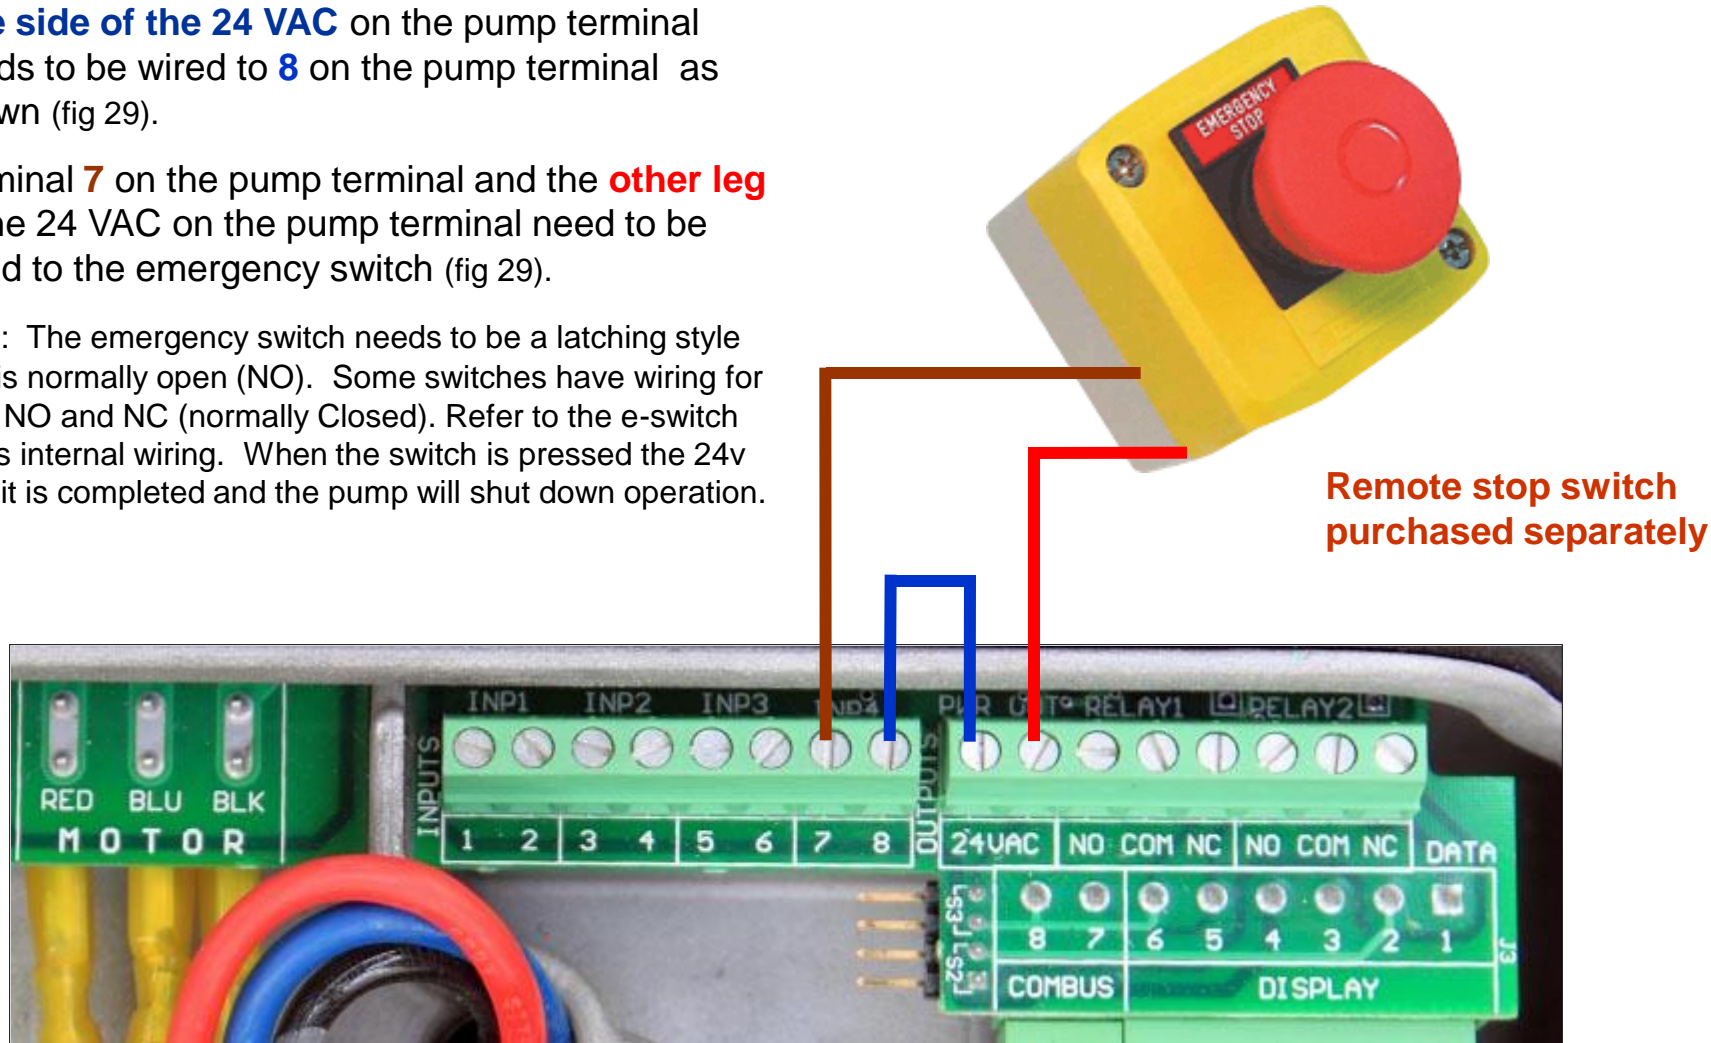

Fig 29
1. **One side of the 24 VAC** on the pump terminal needs to be wired to **8** on the pump terminal as shown (fig 29).
2. Terminal **7** on the pump terminal and the **other leg** of the 24 VAC on the pump terminal need to be wired to the emergency switch (fig 29).